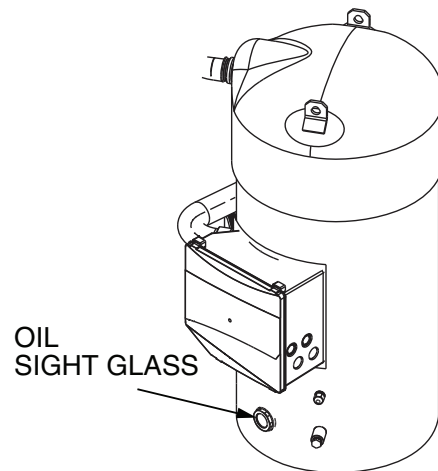

Fig. 39 — Sight Glass Location
5. Oil should be visible in the compressor sight glass(es). See Fig. 39. For unit sizes 010-090, an acceptable oil level is from 1/8 to 3/8 of sight glass. For unit sizes 100-150, an acceptable oil level is from 3/4 to 7/8 of sight glass. No oil should be removed unless the crankcase heater, if equipped, has been energized for at least 24 hours. Adjust the oil level as required. See Oil Charge section on page 60 for Carrier approved oils.